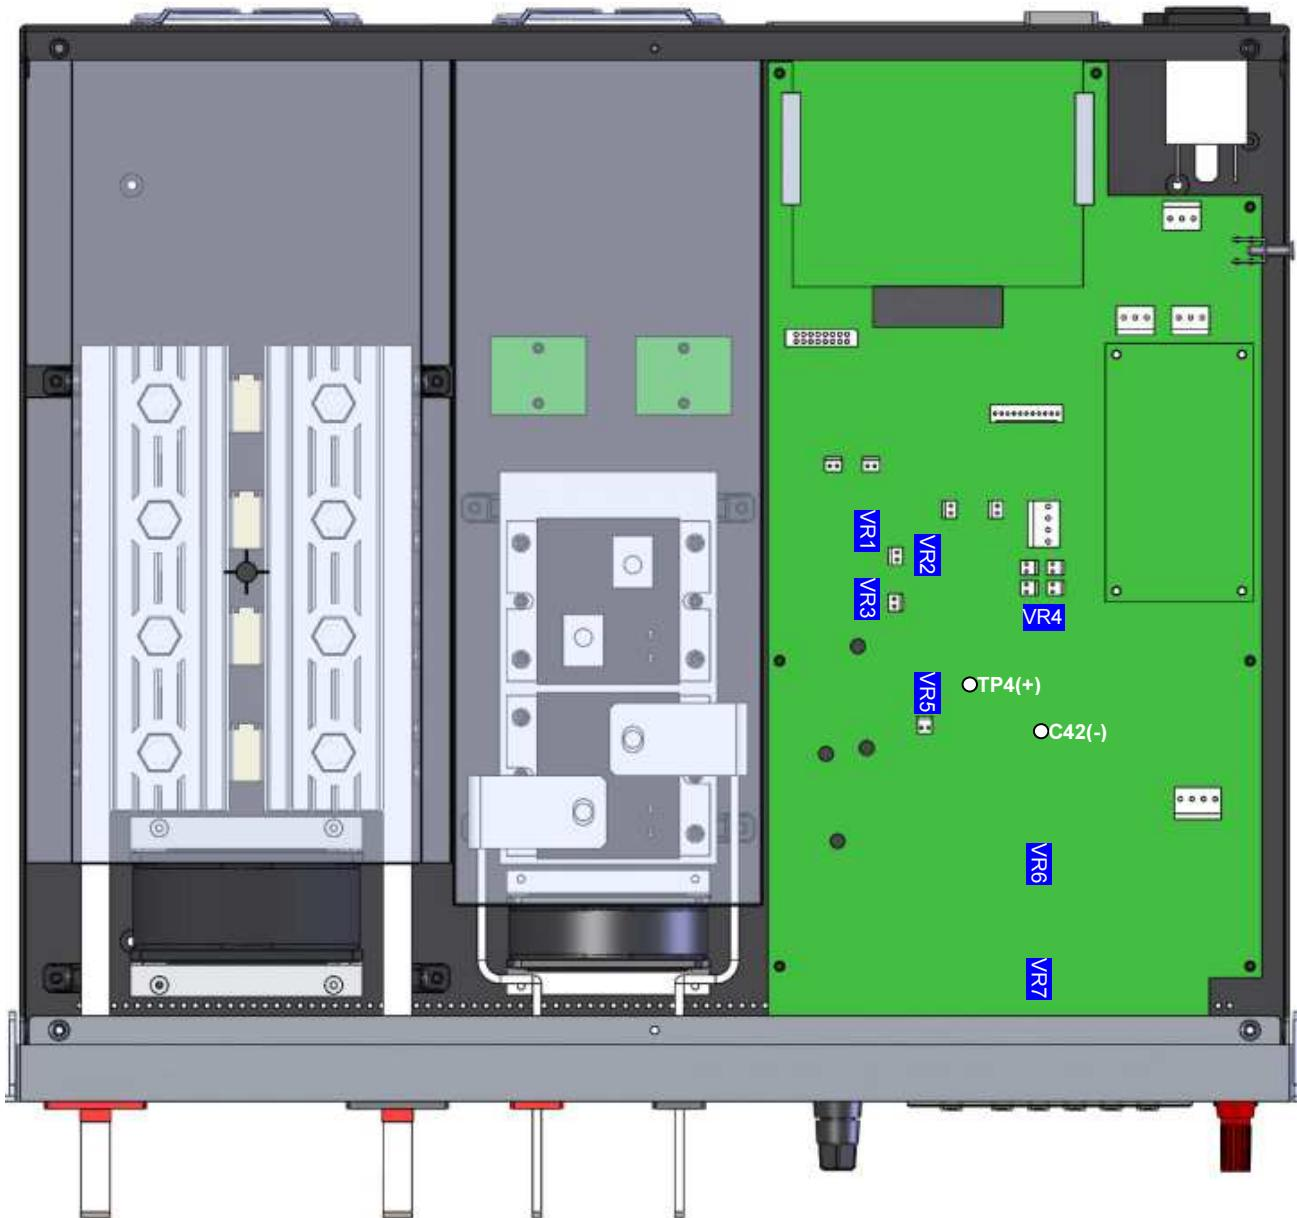

Fig 1-1 Potentiometer layout diagram
The 1000A should be calibrated, at intervals best determined by the user. It will be necessary to remove the top cover of instrument to gain access to the calibration adjustments. Top cover is removed by removing seven screws. The adjust potentiometer and reference are shown on fig 1-1. There are two circuitry needs to be calibrated : shunt and DAM these calibrations may be performed independently.
Press the key switch to the 0.2A position, connect the current calibrator cables to the 0.2A/2A/20A range terminals. Set the current calibrator output for 100mA and adjust VR6 (see fig 1-1) until the DVM reading is the same as the current calibrator output.
Press the key switch to the 2A position, connect the current calibrator cables to the 0.2A/2A/20A range terminals. Set the current calibrator output for 1A and adjust VR7 (see fig 1-1) until the DVM reading is the same as the current calibrator output.
Press the key switch to the 20A position, connect the current calibrator cables to the 0.2A/2A/20A range terminals. Set the current calibrator output for 10A and adjust VR2 (see fig 1-1) until the DVM reading is the same as the current calibrator output.
Press the key switch to the 200A position, connect the current calibrator cables to the 200A range terminals. Set the current calibrator output for 100A and adjust VR3 (see fig 1-1) until the DVM reading is the same as the current calibrator output.
Press the key switch to the 1000A position. connect the current calibrator cables to the 1000A range terminals. Set the current calibrator output for 500A. Adjust VR1 (see fig 1-1) until the DVM reading is the same as the current calibrator output.
2. Connect the digital voltmeter to the TP4(+)、C42(-) (see fig 4-1) of the model 1000A. Adjust VR5 (see fig 1-1) until the DVM reading is 0.000mA.